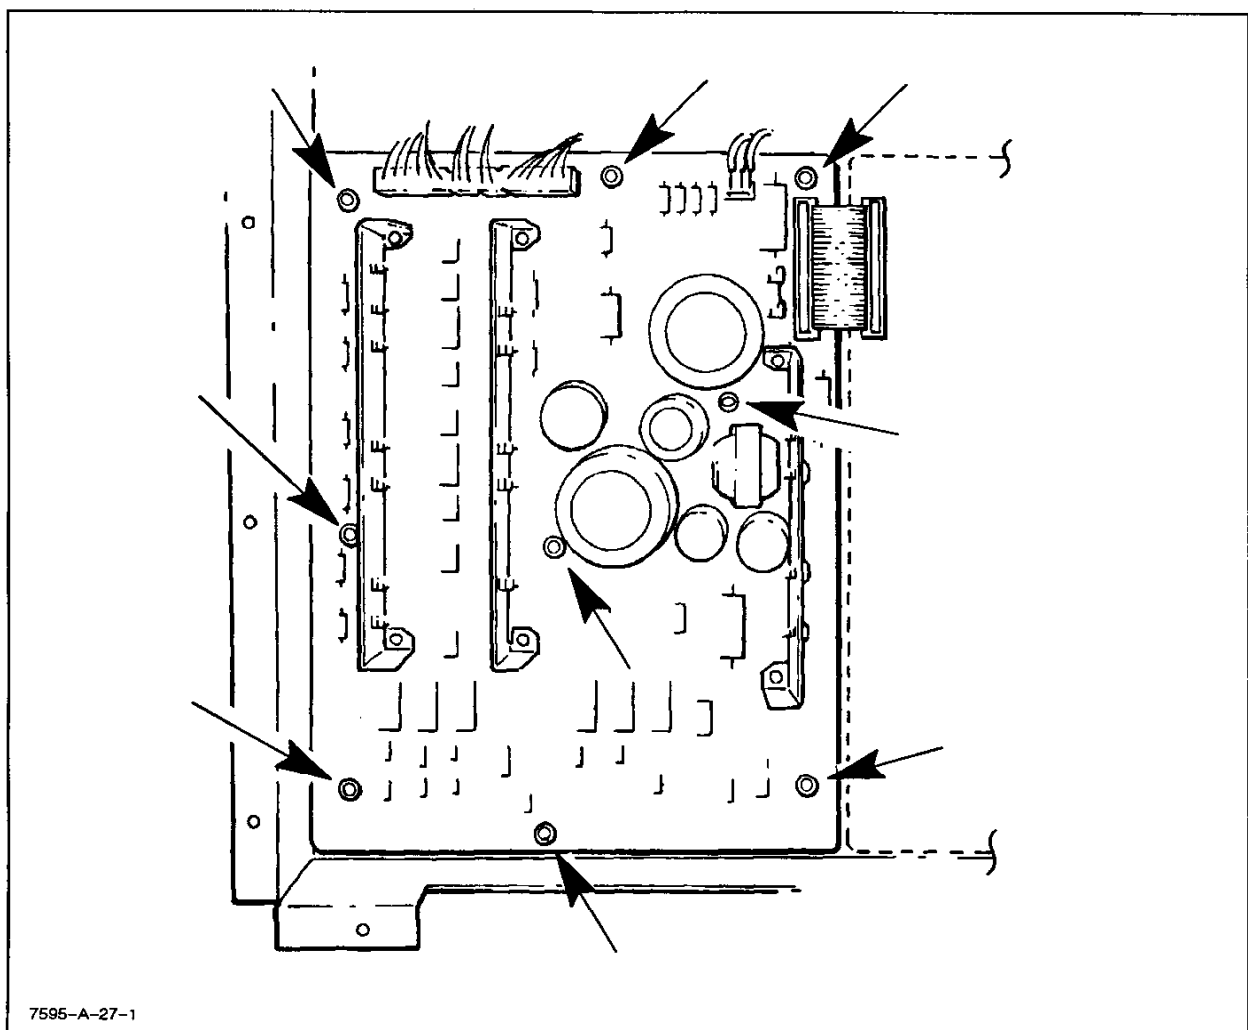

Figure 6-14. Analog PCA Removal
- d. Remove the nine hex nuts (9/32 in.) that secure the PCA. See Figure 6-14.